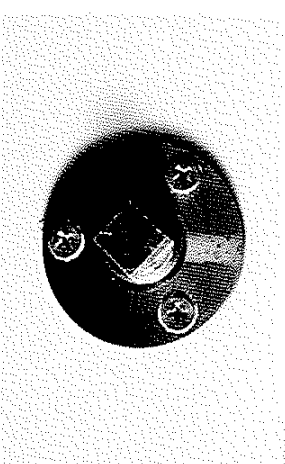

Figure 24
2. Install the drain plug. See figure 24.